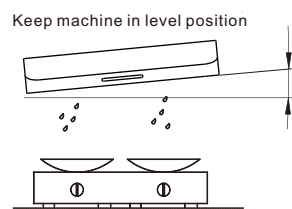

Fig 1-3
4. After installation, machine shall be kept in horizontal position, otherwise grease in oil collectors (either round or square ones) will be going to lower side and pouring out of collectors (Fig1-3).